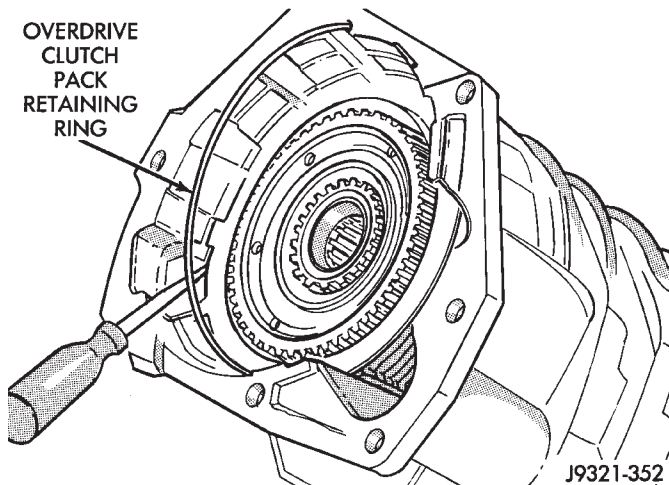

Fig. 246 Overdrive Clutch Pack Retaining Ring Installation
(4) Install overdrive clutch reaction plate first.
(5) Install first clutch disc followed by first clutch plate. Then install remaining clutch discs and plates in same order.
(6) Install clutch pack pressure plate.
(7) Install clutch pack wire-type retaining ring (Fig. 246).